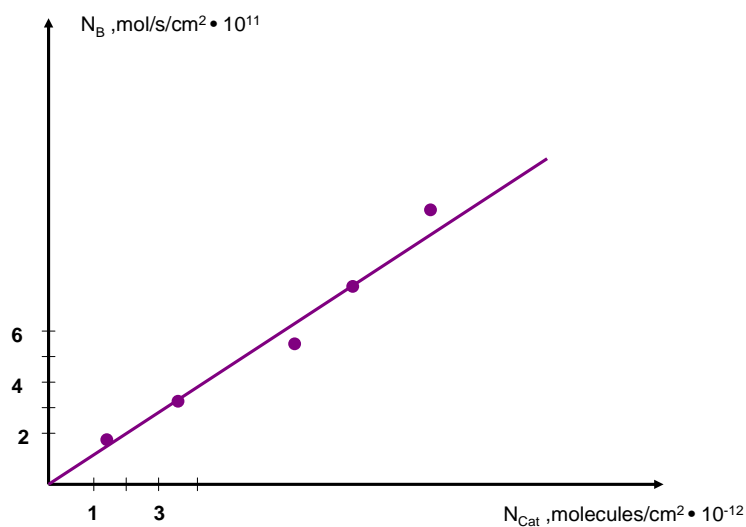

Figure 2a. The dependence of  $N_b$  on  $N_{\text{Cat}}$
3. a) *TOF* is often used to describe the operation of deposited catalysts. To make a deposited catalyst one has to deposit atoms of metal on the inert surface. These atoms form catalytic sites. The dependence of the rate of the catalytic reaction upon the amount of metal atoms deposited on  $1 \text{ cm}^2$  of the surface (less than one monolayer) is shown in Fig. 2a. Calculate *TOF*.